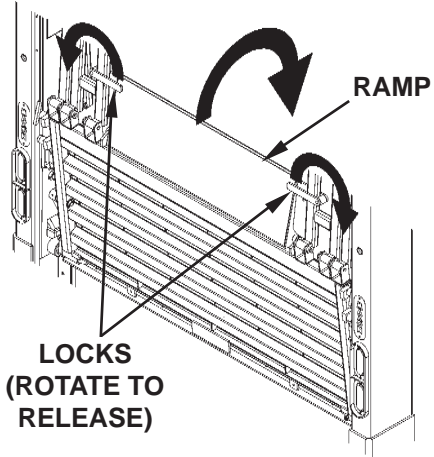

FIG. 22-1
1. Rotate locks (**FIG. 22-1**) to release retention ramp. Fold ramp towards vehicle body.